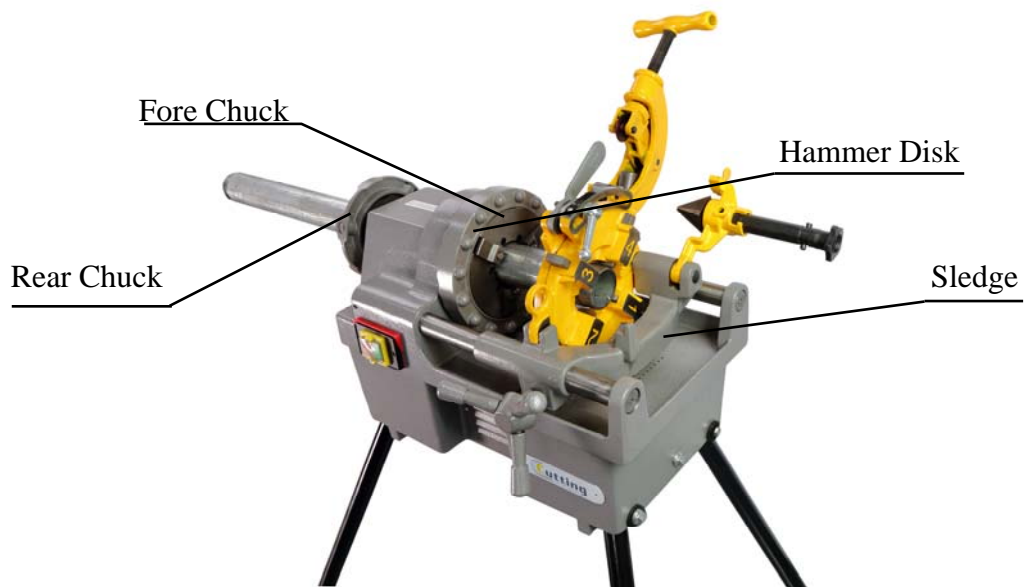

Fig. 4
3. Hold the pipe in right hand, and fix it by wheeling tight the fore and rear chucks, and then moderately tighten the hammer disk by hammering it counterclockwise (see Fig. 4);